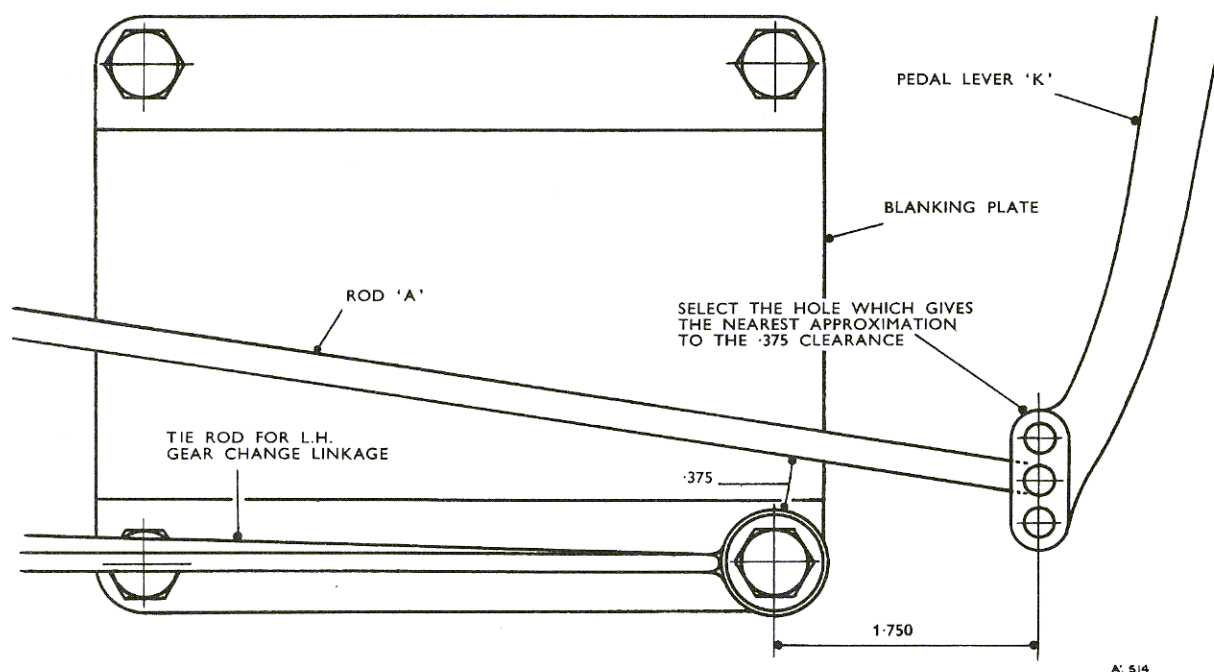

Fig. 31 T.V. linkage — S1 cars
On left-hand drive cars, select one of the three holes in lever (K) which will give the nearest approximation to the 0.375 in. clearance as shown in Figure 31. Connect rod (A) in the selected hole and adjust to give the 1.750 in. dimension shown in Figure 31 in the throttle **closed** position. Adjust the pedal 'on-stop' so that at full throttle the pedal just makes contact with it.
On left-hand drive cars, select one of the three holes in lever (K), to give the nearest approximation to the 0.375 in. dimension, as shown in Figure 31. Connect rod (A) using the selected hole, then adjust to give the 1.750 in. dimension as shown in Figure 31. With the throttles closed, adjust the pedal 'on-stop' (S) so that the pedal will just make contact with it at the same time as lever (T) contacts the 'on-stop'. Raise the pedal 'on-stop' (S) by $2\frac{1}{2}$ turns.